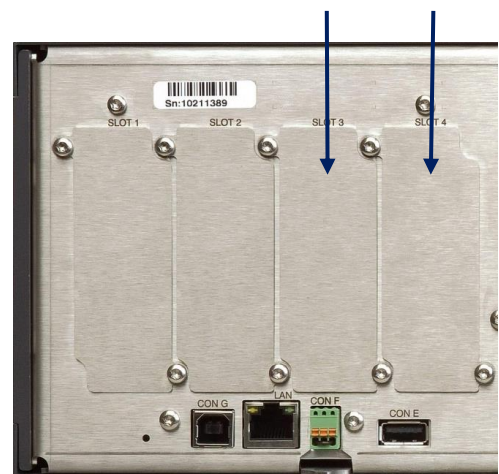

fig 3 - 1
- See figure 3 - 1 for location of the slots.